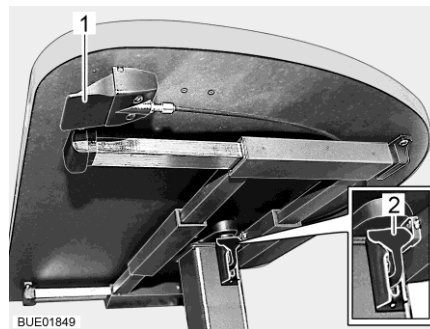

Fig. 93 Lift-off table with release button
- Pull or press down the catch lever (Fig. 93,2).
- Press the catch lever (Fig. 93,2) upwards.
- Press the release button (Fig. 93,1) and hold it down. The table top moves automatically upwards to the limit stop.
- Release the release button (Fig. 93,1). The table top remains in the desired position.
- Press the release button (Fig. 93,1) and hold it down.
- Release the release button (Fig. 93,1). The table top remains in the lowest position.